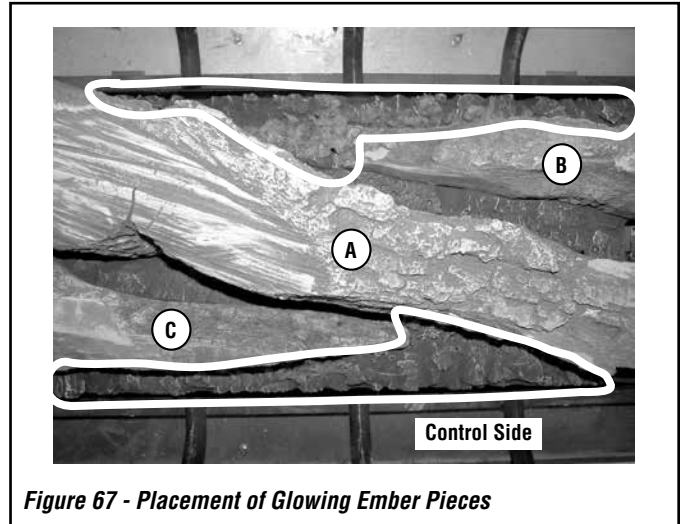

Figure 67 - Placement of Glowing Ember Pieces
- b) Distribute the dime-sized pieces over the surface of the burner, in the areas shown in Figures 67 and 68.